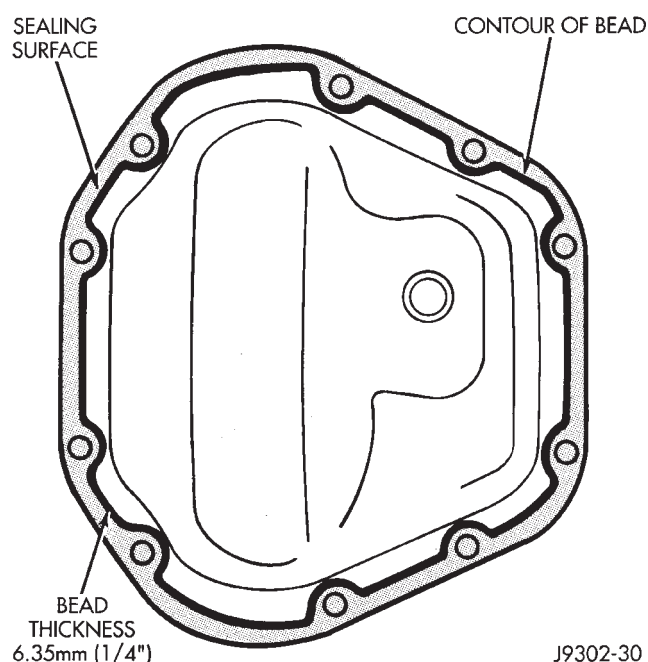

Fig. 3 Typical Housing Cover With Sealant
- (1) Raise and support the vehicle.
- (2) Remove the lubricant fill hole plug from the differential housing cover.
- (3) Remove the differential housing cover and drain the lubricant from the housing.
- (4) Clean the housing cavity with a flushing oil, light engine oil or lint free cloth. **Do not use water, steam, kerosene or gasoline for cleaning.**
- (5) Remove the sealant from the housing and cover surfaces. Use solvent to clean the mating surfaces.
- (6) Apply a bead of Mopar® Silicone Rubber Sealant, or equivalent, to the housing cover (Fig. 3).